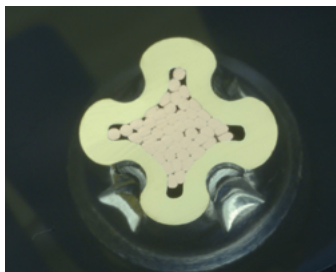

Figure V-4: Micro-section of a defective sample, wire cross-section too small
- Contact under-crimped - larger gaps in the *cross-section* (Figure V-4)